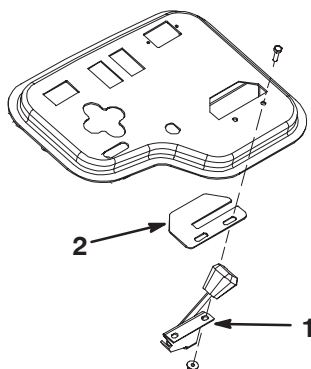

Figure 2
4. Remove the screws and nuts securing the throttle cable lever and throttle stop plate to the control panel (Fig. 2). Note the routing of the cable when removing it.
6. Mount the new throttle cable lever and the throttle stop to the control panel with the previously removed screws and nut. Make sure the throttle stop is positioned as shown in figure 2.